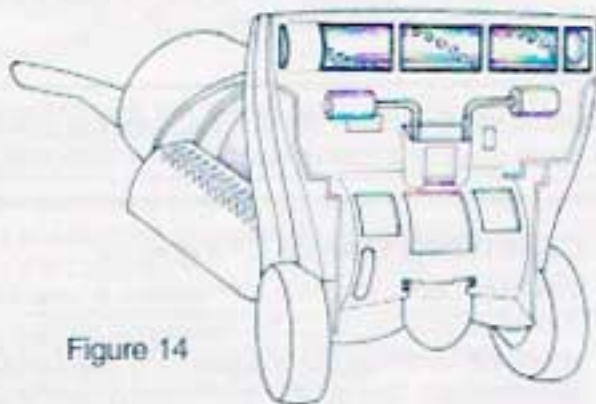

Figure 14
A. KEEPING THE ROTATING BRUSH CLEAN: (Figure 14)